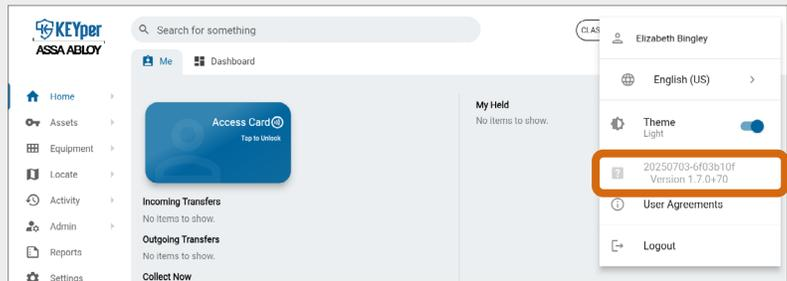

Fig. 138 – View the current software version in the Profile menu
- 🔑 The read-only software version is displayed, as shown in Fig. 138.